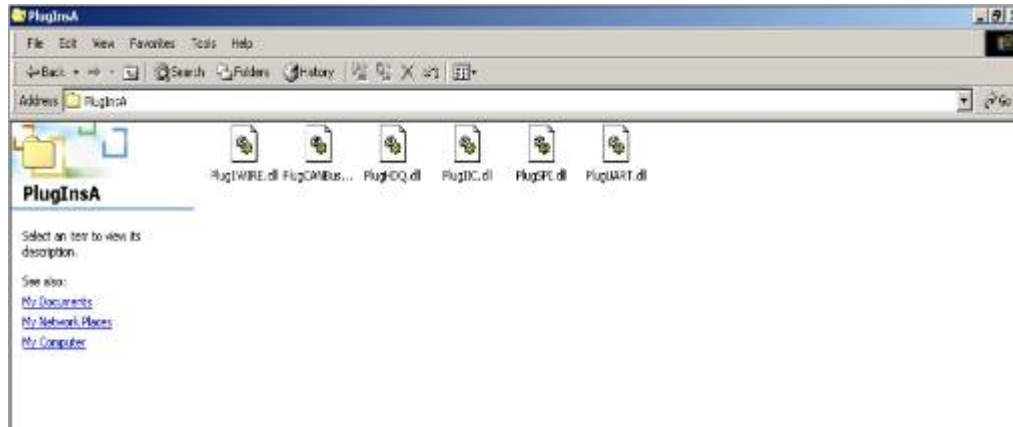

Fig4-35 - PlugInsA
STEP 1. Put the CAN2.0B Plug in the PlugIns as the Fig4-35.